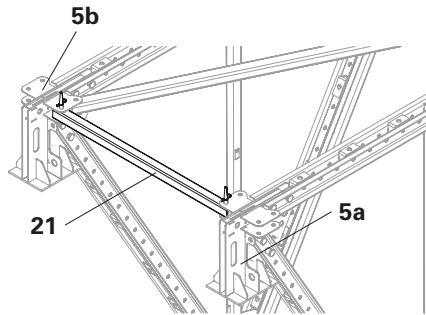

Fig. A4.31
2. Fix the Horizontal Post 150 (**21**) to each Chord Node (**5a**) and (**5b**) using 1x fitting pin  $\varnothing 21$  (**53**) respectively and secure with cotter pins 4/1 (**54**). (Fig. A4.31 + A4.31a)